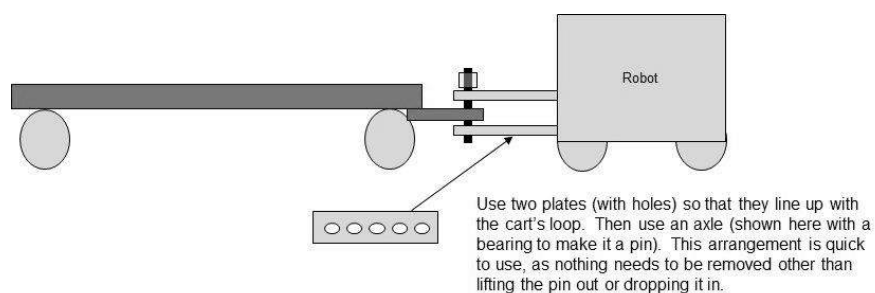

Figure 18 - Possible Robot-Cart connection
- (1) In this instance a connection refers to a point where the two are in contact rather than a connection as often used in reference to LEGO pieces that have been coupled with knobs and holes.
- (2) The robot may only connect to the wagon at the loop or loops and may only use LEGO or VEX IQ parts to make the connection
- (3) MOST FAILURES OCCUR AT THE CONNECTION POINT, SPEND SOME TIME ON THIS BEFORE THE COMPETITION, (see Figure 18 for good example of connection)
- (4) Robot wires, string or elastics may NOT be used for this connection